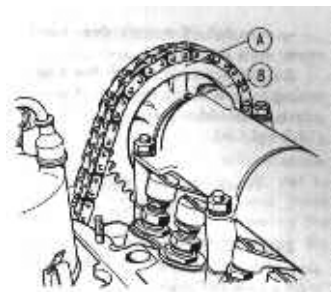

Figure 32. Setting No. 4 Cylinder piston in TDC
- Rotate the crankshaft clockwise to align mark A (Fig. 32) on the sprocket with mark B on the camshaft housing; in this case the piston of the No. 4 cylinder will be on TDC at the end of the compression stroke, and both valves will be closed